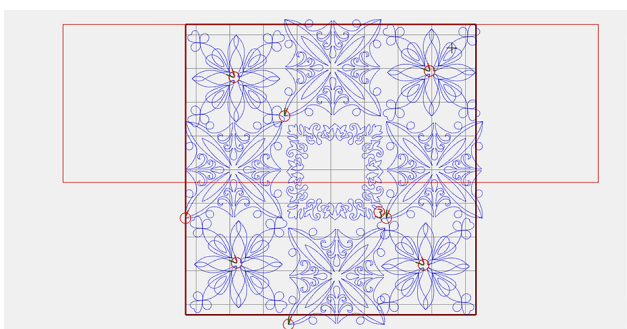

Fig. 74
13. Place Design 3 in the center block area (Fig. 74).